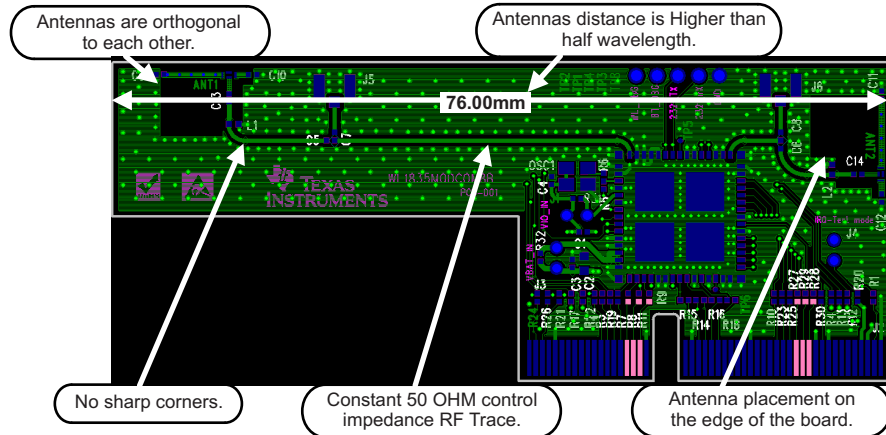

Figure 7-2. Location of Antenna and RF Trace Routing on the TMDXWL1837MODCOM8I Board
Figure 7-2 shows the location of the antenna on the WL1837MODCOM8I board as well as the RF trace routing from the (X)WL1837 module (TI reference design). The TDK chip multilayer antennas are mounted on the board with a specific layout and matching circuit for the radiation test conducted in FCC, CE, and IC certifications.